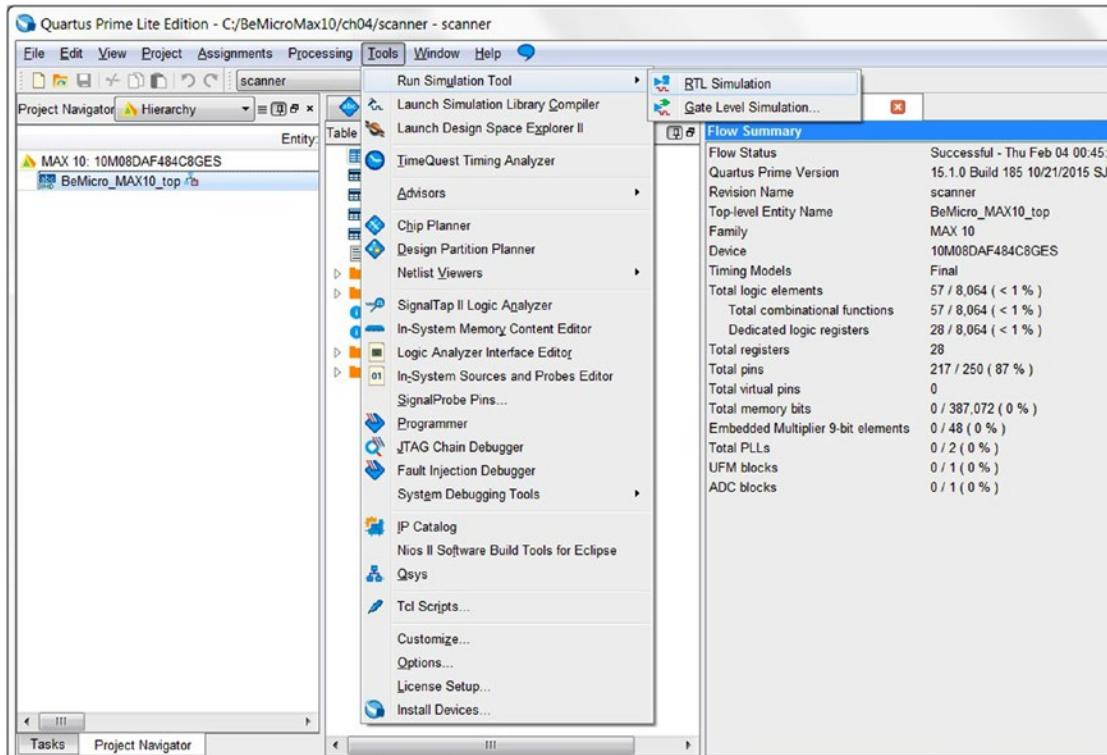
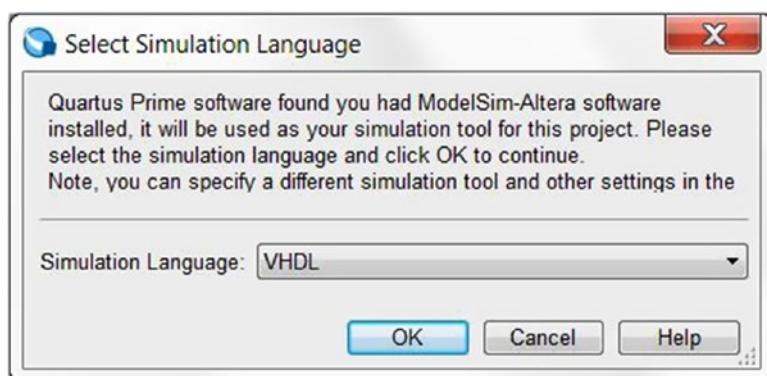

Figure 4-33. Start the Simulation software—ModelSim-Altera version
Figure 4-34. Select simulation language—VHDL
3. Click **Tools ▶ Run Simulation ▶ RTL Simulation** to open ModelSim (Simulation software). It is like Figure 4-33. The first time you run it in a project, it will ask you to select the simulation language. Select **VHDL** and click **OK** (Figure 4-34).